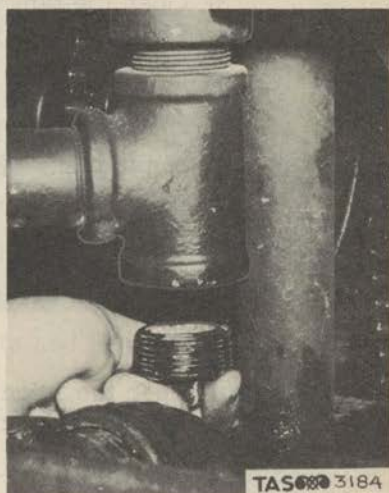

Figure 71. Removing Drain Plug from Relief Valve.
(10) Remove the drain plug at the bottom of the relief valve. (Fig. 71)